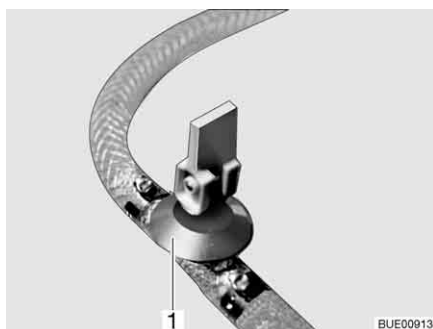
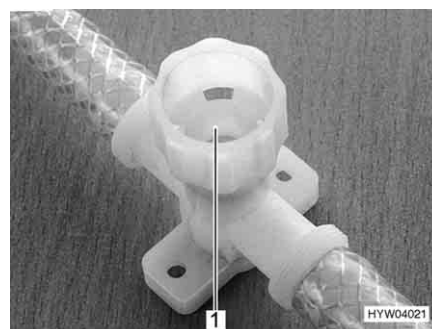

Fig. 246 Drain cock (with rocking lever)
Fig. 247 Drain cock (with twist cap)
- Open all drain cocks. To do this, position the drain cock's rocking lever (Fig. 246, 1) vertically or turn the drain cock's cap (Fig. 247, 1) in an anti-clockwise direction.